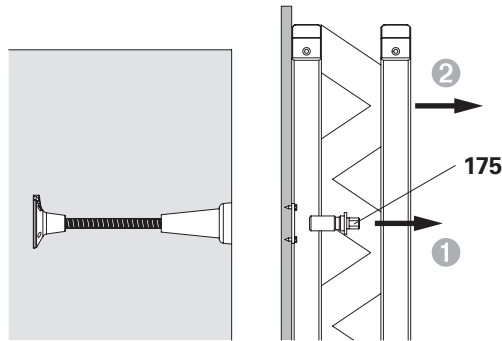

Fig. A3.25
1. Release Positioning Screw M30 (175) and remove.
- (Fig. A3.25)